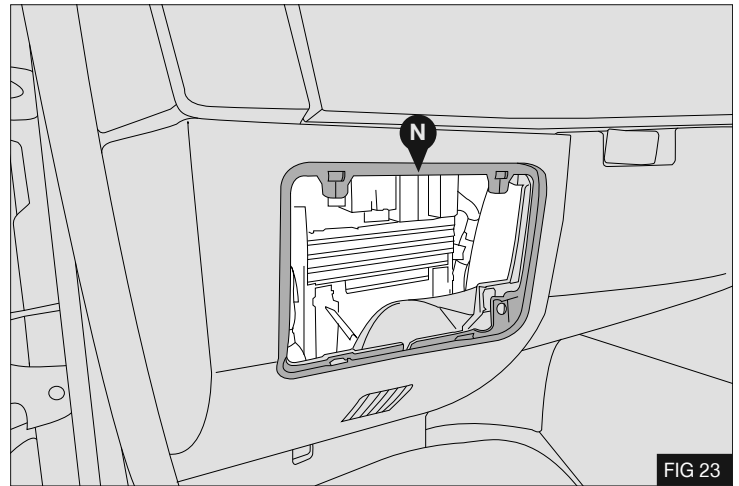

FIG 23
1. Remove trim (N) from the passenger side compartment to improve access for the following instructions. - Fig 23